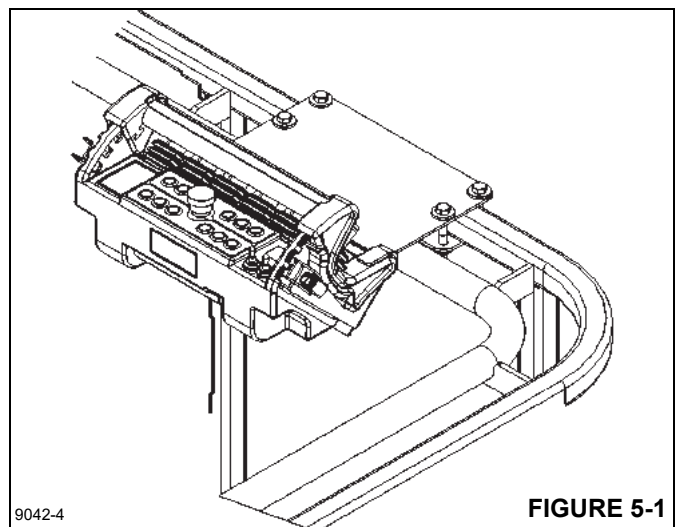
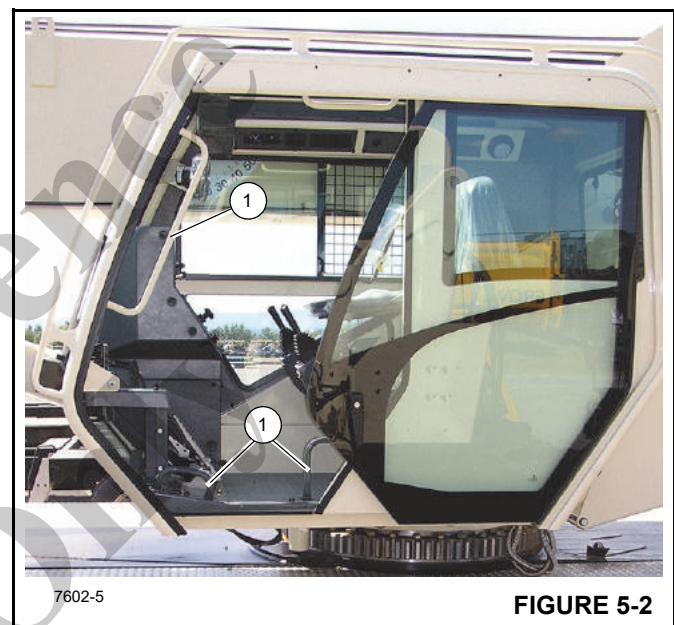

FIGURE 5-1
FIGURE 5-2
The controls described here are those controls that are used in conjunction with the aerial lift equipment controls. The Aerial Lift Platform movements are controlled by two separate control systems - Aerial Lift Platform Controls (primary) Figure 5-1 and Ground Controls (secondary) Figure 5-2.
The equipment ground controls are located in the Ground Controls station (operator's cab) Figure 5-2 and are used for equipment functions.
6. Secure the upper platform radio remote controller to mounting bracket attached to the platform railing (See Figure 5-1.)